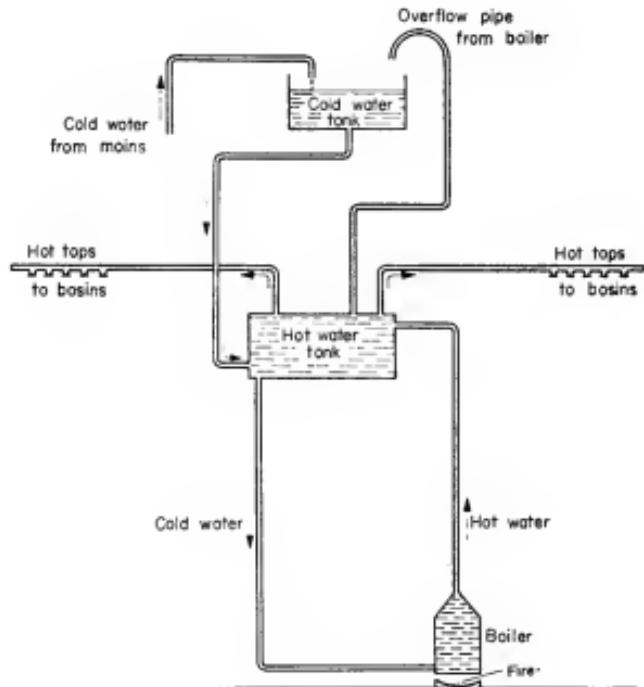

FIG. 47. *The domestic hot water system.*
The boiler is usually situated in a low position in the basement, and the water which is heated becomes less dense and rises up the pipes to the place of need. The supply of fresh cold water from the mains is usually found in the roof tank. (See Fig. 47.)
1. Mention has already been made of a *hot-water system based on convection currents* in water (page 86). A boiler is heated by solid fuel or gas. The water heated in the boiler rises and enters a large storage tank or cylinder from whence it can be drawn off to the basins (see Fig 47, page 85). The cylinder is well lagged to prevent loss of heat by radiation. There are several variations of this method of water heating. For instance there may be a hot water tank as well as the cylinder